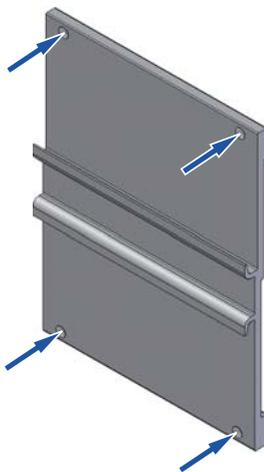

Fig. 1: Mark the drill holes
- Place the RSR20/RSR30 wall mounting plate as a drilling template on the wall, due to your requirements, and mark the four drill holes (see Fig. 1).
- unscrew the two lower screws on the device (see Fig. 1 or 2).